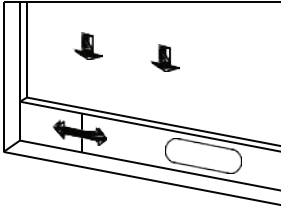
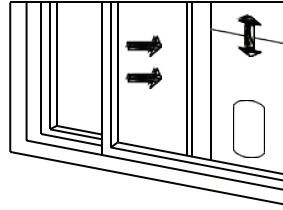

Figure 2
Figure 3
1. Half open the window, and mount the window sealing plate assembly to the window (as shown in Figure 2 and Figure 3); the assembly can be placed in horizontal or vertical direction